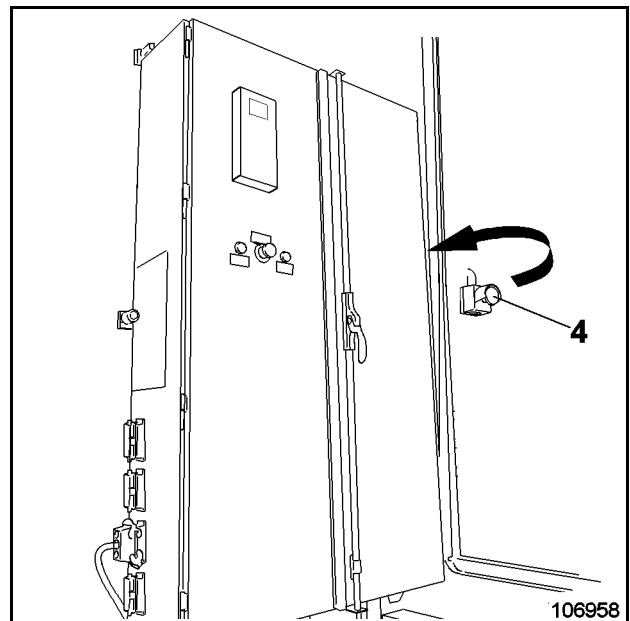

Fig. 3-12:
- ➔ Set servicing switch (4, Fig. 3-12:) to locked position and secure in this position with a padlock.
- ➔ After finishing work on the electric motor remove the padlock from servicing switch (4, Fig. 3-12:) and unlock.